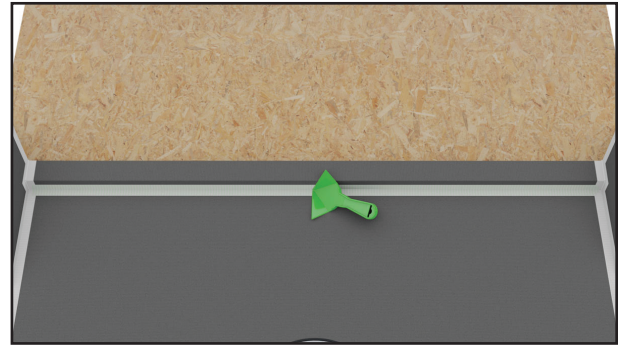

Fig. 17
7. Use the HYDRO-BLOK Corner Putty Knife to smooth out the excess Joint Sealant from the seam between the Shower Pan and Curb and install 2" mesh tape as per the Shower Pan to Wallboard seams. Place an additional small piece of mesh tape at the top of Shower Curb to Wallboard joint. Any excess Joint Sealant can be spread to cover the Screws/Washers (Fig. 17).